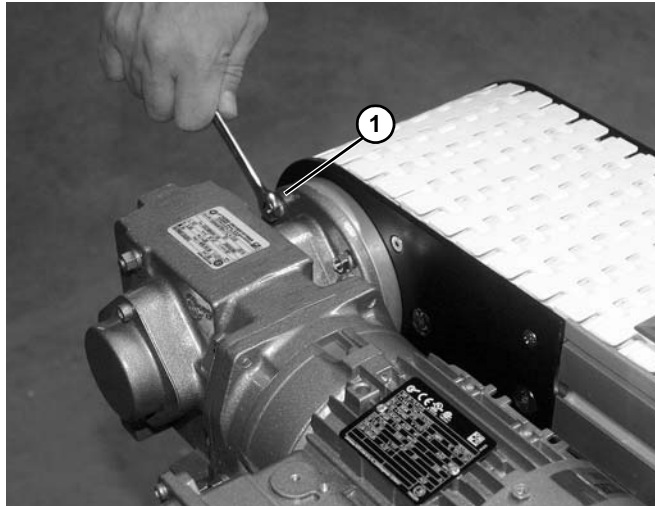

Figure 132
1. Remove four nuts (**Figure 132, item 1**) securing drive motor.